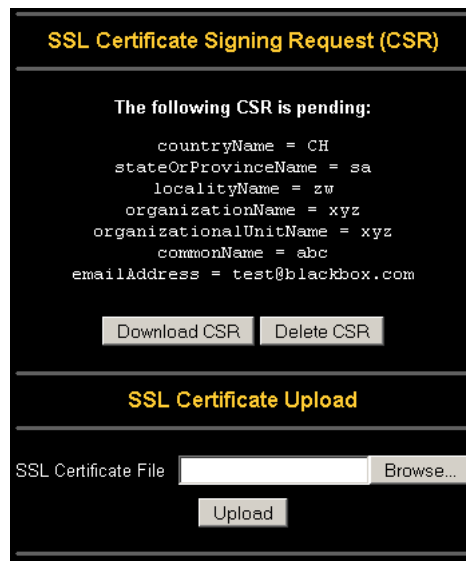

Figure 5.31: SSL Certificate Signing Request
1. Create a SSL Certificate Signing Request using the panel shown in Figure 5.30 on the next page (Security Settings → SSL Settings → Create your own SSL certificate). You need to fill out a number of fields that are explained above. Once this is done, click ‘Create CSR’ which will initiate the Certificate Signing Request generation. The CSR can be downloaded to your administration machine with the ‘Download CSR’ button (see Figure 5.31 on page 61).
3. Upload the certificate to RAS-PutIn using the ‘Upload’ panel as shown in Figure 5.31 on page 61.